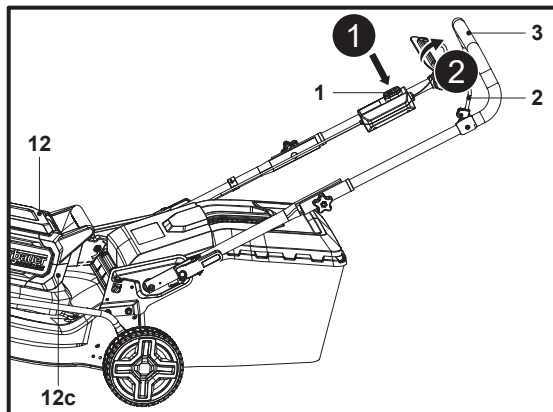

Fig. 16
**NOTE:** The product can only be started by pressing the safety switch button (1) followed by squeezing the start lever (2) within 5 seconds. Reverse operation or interval between two actions exceeding 5 seconds cannot start the product.
1. Open the battery compartment cover (12) and install the battery pack (23) into the battery compartment (12e).
2. Close the battery compartment cover (12).
3. Stand behind the grip handle (3).
4. While holding the safety switch button (1) pressed (Fig. 16, step 1), pull the start levers (2) towards the grip handle (3) within 5 seconds and hold it in position (Fig. 16, step 2).
5. After the lawn mower starts, release the safety switch button (1).
6. The actual battery capacity will be displayed on the battery display (12c) at the back of battery compartment cover (12).
7. The work lamp (12f) at the front of battery compartment cover (12) will be automatically powered on.